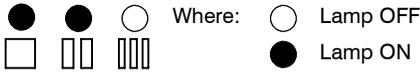

Fig. 7.10
- 12 Press the reset button 6 repeatedly (2 times) until the lamps 9 give the indication as in Fig. 7.10 (useful c.h. output adjustment mode).